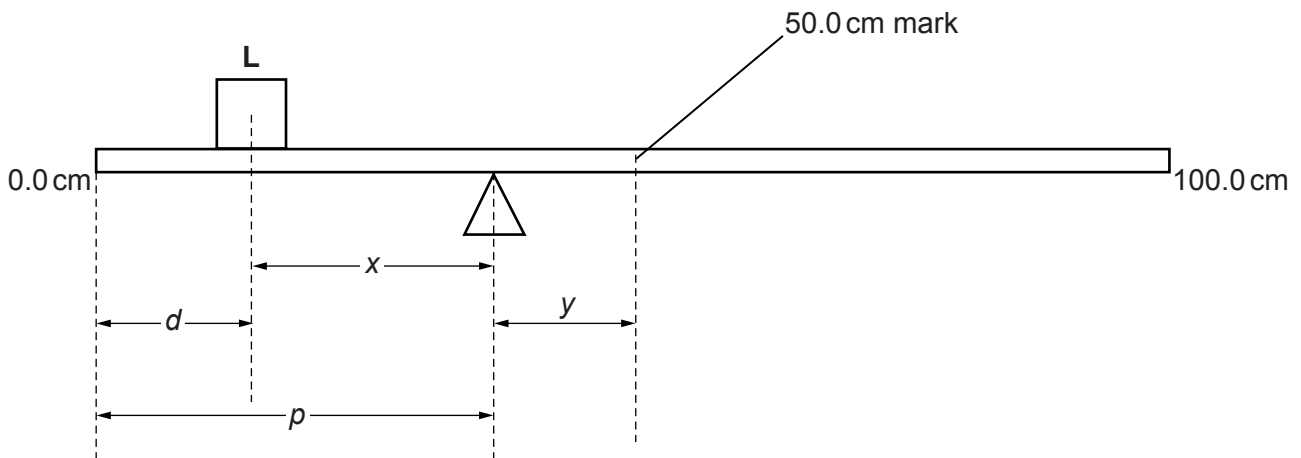

Fig. 3.1
- (a) (i) • Set up the apparatus as shown in Fig. 3.1.